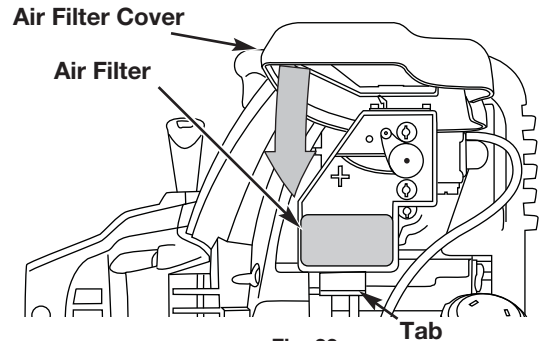

Fig. 29
8. Swing the cover down until the tab on the air filter backplate snaps into place in the slot on the air filter cover (Fig. 29).